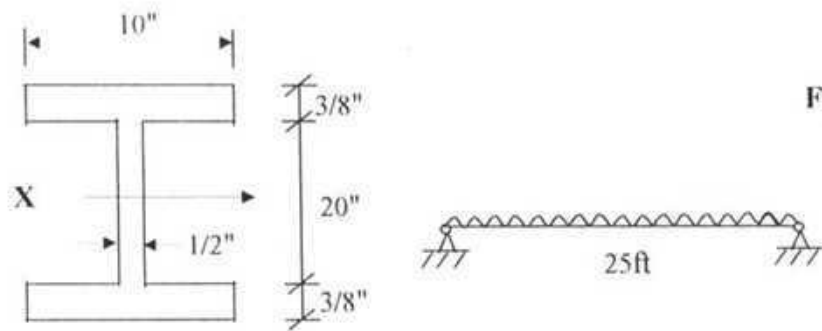

Fig. 7
- (b) Differentiate between stiffened and un stiffened elements with neat sketches. (4)
5. (a) What are different connections in a frame? Explain with neat sketches. (9)
- (b) Design a building column using W10 section provided in Annexure -2. The column is of A36 steel, 20 ft long and is to support a dead load of 75 kips and a live load of 170 kips. Assume that both ends are fixed supported in X and Y-axis. Given: $E=29000$ ksi. (11)
6. (a) A simply supported beam of span 25 ft having an I section as shown in Fig.7 is subjected to transverse load acting through the shear center. Determine the critical intensity of load w in lb/ft for lateral torsional buckling of the beam. Given: effective length coefficient=1; Poisson's Ratio=0.25; $C_b=1.13$; $E=30000$ ksi. (12)